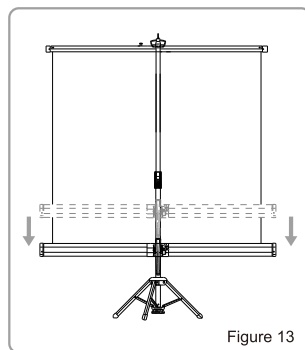

Figure 13
7. Use the plastic handle to adjust the height of the housing according to the viewers' angle. (Figure 13)